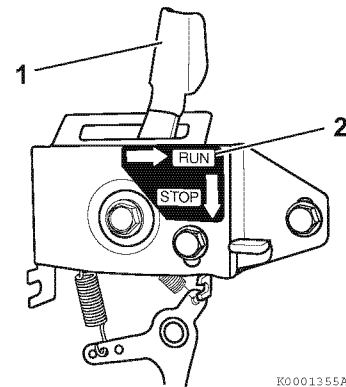

Figure 31
4. Move the engine speed control lever (1, **Figure 31**) to the RUN position (2, **Figure 31**).